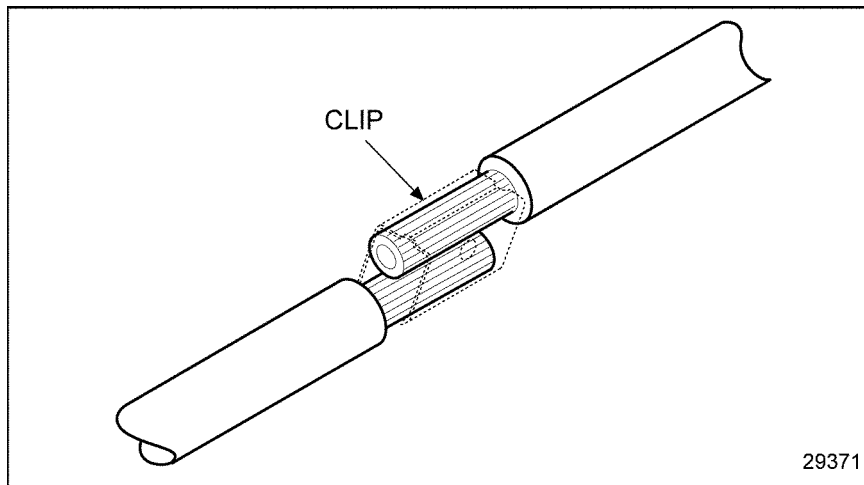

Figure 2-15 **Securing the Leads With a Clip**
2. Secure the leads with a commercially available clip and hand tool. See Figure 2-15.